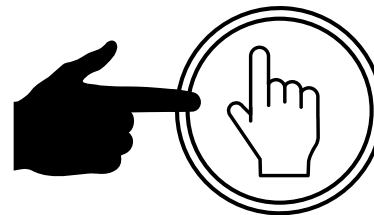

Figure 44. Manual Mode Button
- Next, press the **MANUAL** button (Figure 44) on the controller.